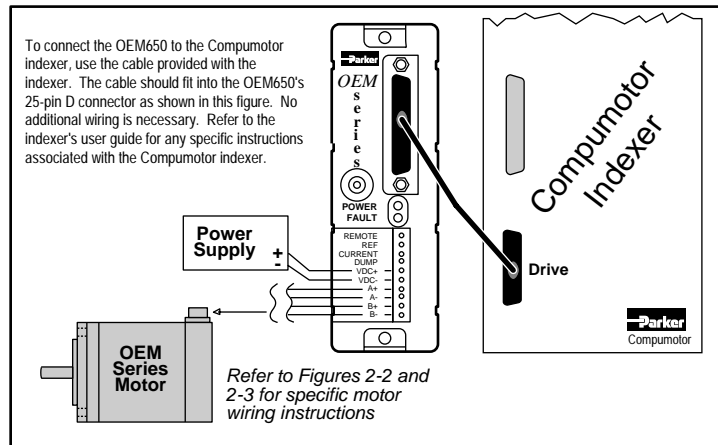

Figure 2-6. OEM650 with Compumotor Indexer Test Configuration
2. To connect a **Compumotor indexer** to the OEM650's 25-pin D connector refer to Figure 2-6.